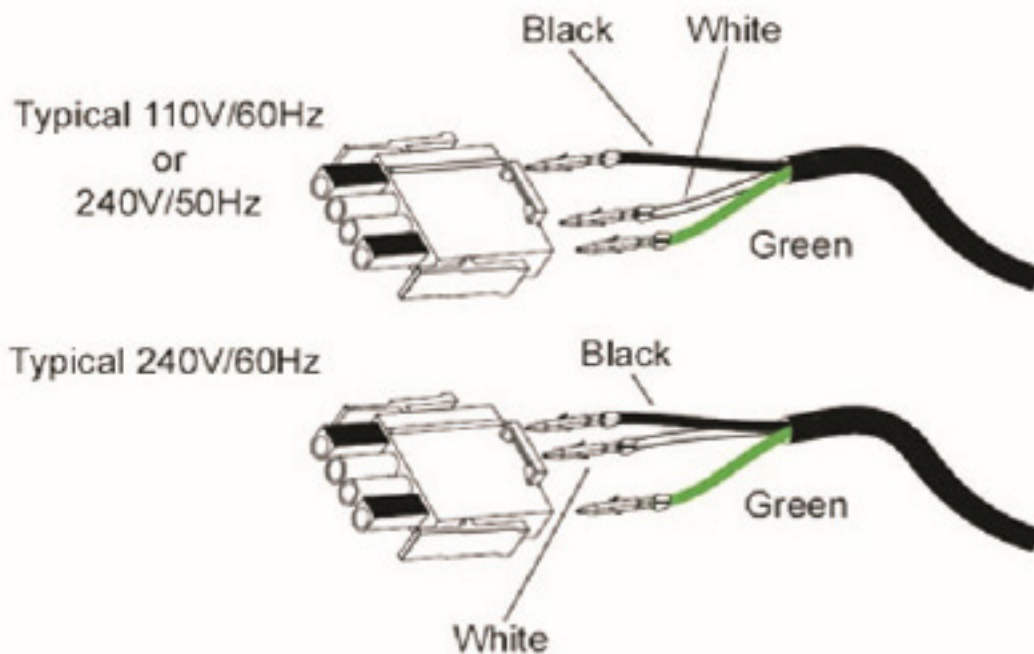

Figure 2
- **Connect the Aquatic 2 cord to the mating connector(s) on the control box according to the provided A2Z Ozone® wiring diagram in Figure 2.**